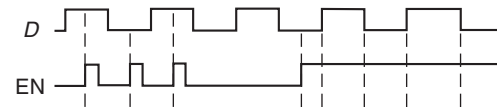

Fig. 12.14 Input Waveforms Applied to the Gated-D-Latch which is Initially Reset.
12.13 Determine the Q output waveform if the inputs shown in Fig. 12.14 are applied to the gated D-latch which is initially Reset.